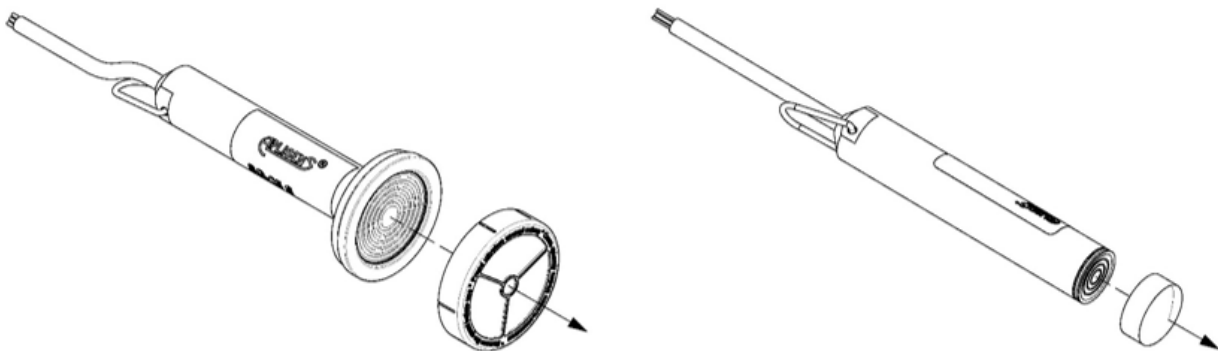

**Figure 1.** Mounting brackets for probes
The depth probes are installed in places where the liquid level is measured in wells, tanks, boreholes, etc. The probe is immersed in the measured medium. A special cable extends above the medium level and can be connected directly to the device cooperating with the probe or to the junction box. The probe can be hung on the power cable, e.g. by using Aplisens SG cable hanger (item 1 in Fig. 1). In the event of frequent removal of the probe or when there is a risk of catching on protruding elements during pulling up, it is recommended to hang the probe on a steel cord using the carrying eye (item 2 in Fig. 1 - does not apply to SGE-16 probes).